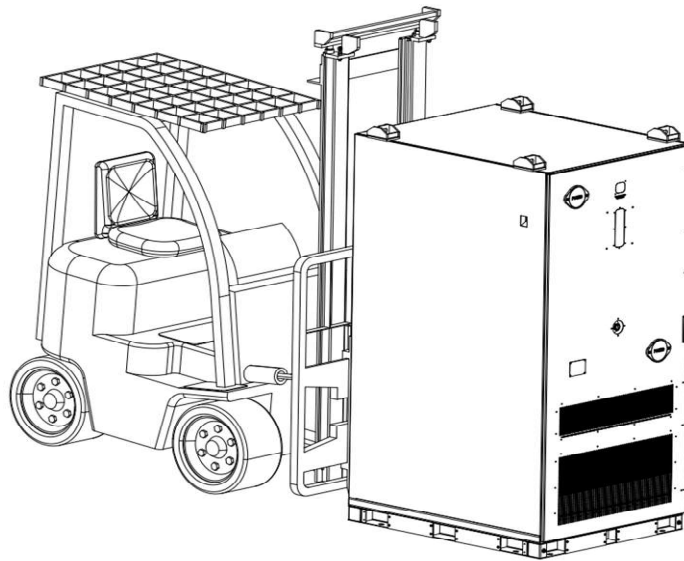

Fig. 3-3 Fork Diagram
4. For safety considerations during forklift loading, it is recommended that a safety belt be tied around the energy storage cabinet and attached to the forklift crossbar. For specific forklift operations, refer to Fig. 3-3 below.